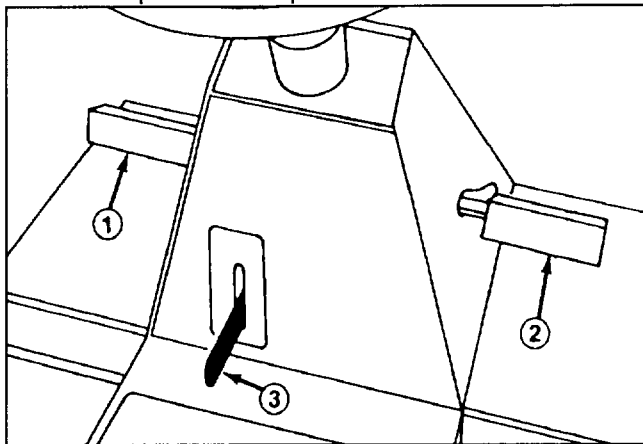

Figure 8
**Clutch Pedal (Fig. 8)** – Foot-operated clutch pedal is used in conjunction with gear shift. Depress clutch pedal fully when shifting gears, which moves idler pulley away from traction drive belt and disengages power to wheels. Depress clutch pedal whenever brake is used.
**Brake Pedal (Fig. 8)** – Foot-operated brake pedal must be depressed to slow down or stop the rider. When pedal is depressed, a caliper engages the brake disc at side of transmission. Remember to depress clutch pedal when using brake.
**Parking Brake (Fig. 8)** – Parking brake must be used in conjunction with clutch and brake pedals. When pedals are depressed, end of parking brake lever holds brake and clutch pedals in depressed position, a caliper engages the brake disc at side of transmission.